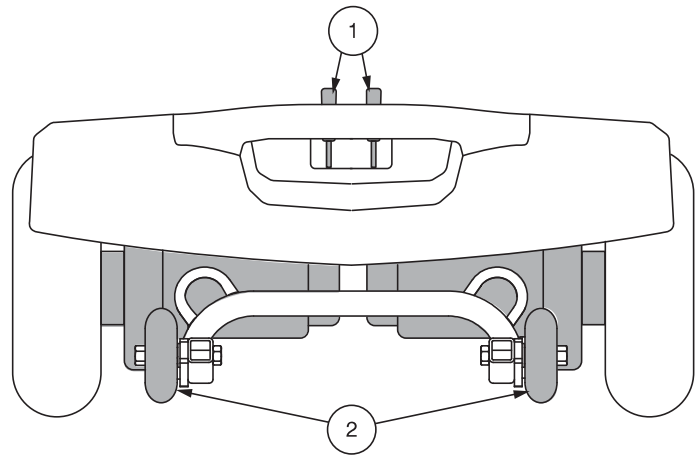

Figure 8. Rear Components - Jazzy ZTS
For your convenience, your travel scooter has a manual freewheel lever on each motor. Manual freewheel levers enable you to disable the drive system in order to maneuver the Travel Scooter manually. See figure 8.
1. Locate the levers on the rear section of the scooter. See figure 8.